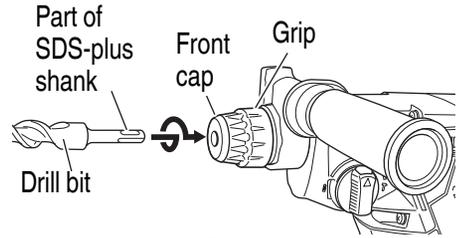

Fig. 7
3. Mounting the drill bit (Fig. 7, 8)
- (1) Clean the shank portion of the drill bit.
- (2) Insert the drill bit in a twisting manner into the tool holder until it latches itself. (Fig. 7)